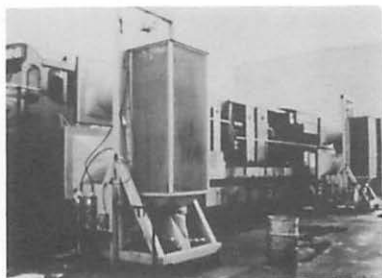

FIG. 24
- a. Internal carbody cleaning—dry method spot 1 (Figure 24)